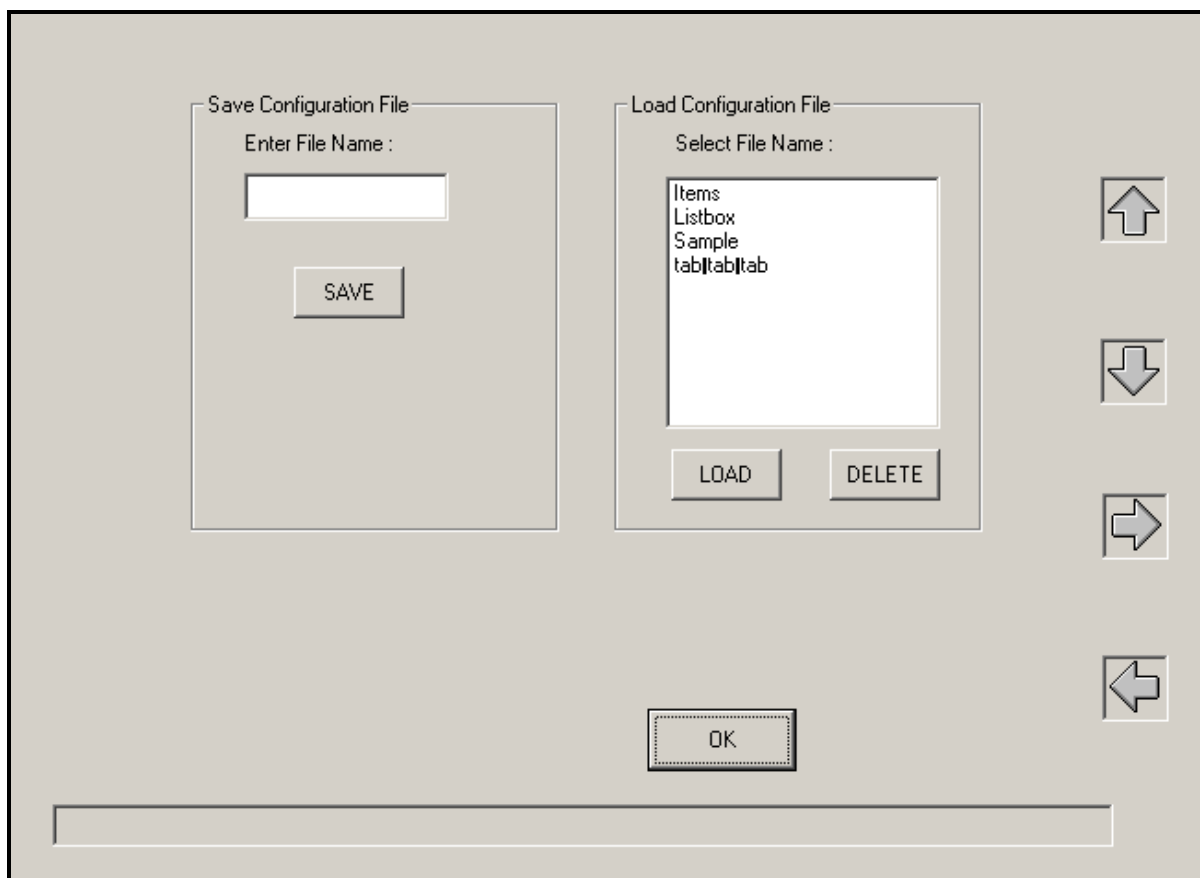

Figure 4-9: Configuration Screen
1. Select **Configuration** on the Main Screen. A screen similar to the one shown below in Figure 4-9 appears.